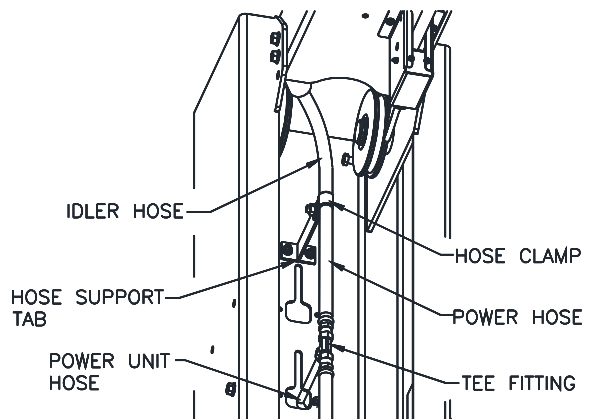

Fig. 12 – Power Side Hose Routing
- 25) Connect the power hose to the idler hose using tee fitting. Install the power unit hose to the tee in the power column. Remove slack out of the power hose and tighten the clamp. **Fig. 12**. **Note: CL12-1 & CL12-2 will require extension hoses (supplied) to be used with the Power hose.**